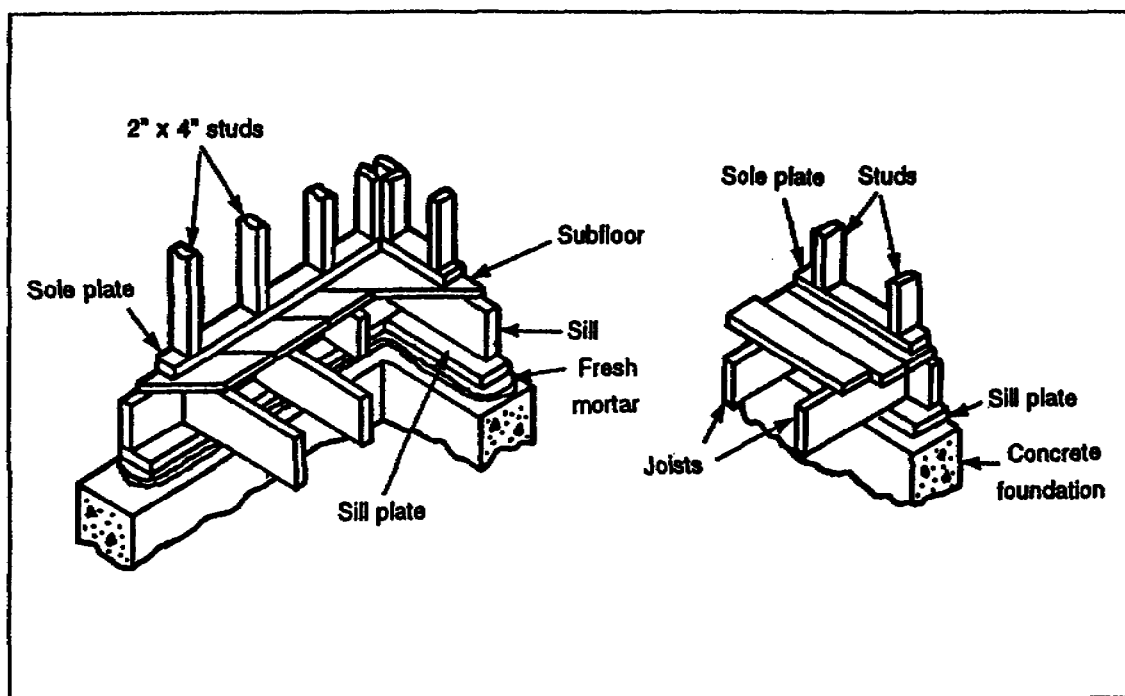

Figure 1-1. Box sills
a. Box Sills. Figure 1-1, page 1-2, shows box sills. Box sills are often used with the common style of platform framing (either with or without a sill plate). With this type of ill, the part that lies on the foundation wall or ground is called the *sill plate*. The sill is laid edgewise on the outside edge of the sill plate.